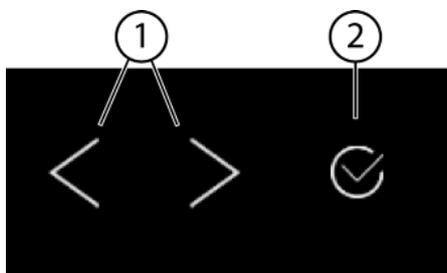
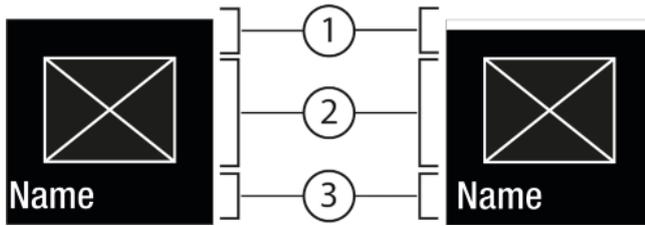
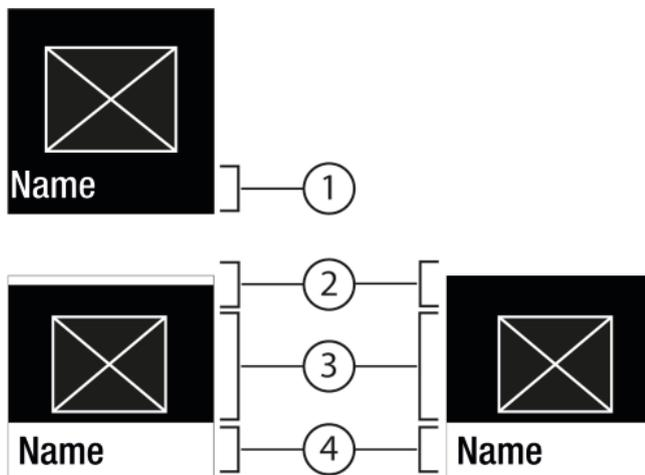

Fig. 5
Fig. 6
Fig. 7
(1) Navigation arrow left/right
(2) Confirm
**Navigation arrow left/right** Fig. 5 (1):
**Confirm** Fig. 5 (2):
- Press the left/right Fig. 5 (1) arrow to navigate.
- Press Confirm Fig. 5 (2) to activate Fig. 6 (1) / deactivate Fig. 6 (1) the function.
- Press Confirm Fig. 5 (2) to open the submenu Fig. 7 (4).
- Set a new value: Press Confirm Fig. 5 (2) to select an active value Fig. 6 (1).
- Back to the menu: Press Confirm Fig. 5 (2) to select the active value Fig. 6 (2).
- ▶ Press the navigation arrows Fig. 5 (1) until the appears.
- ▶ Press Confirm Fig. 5 (2).
- ▶ Press the navigation arrows Fig. 5 (1) until the function appears.
- ▶ Press the navigation arrows Fig. 5 (1) to select the setting value.
- ▷ Status: On Fig. 6 (1) appears briefly in the submenu Fig. 7 (4).
- ▶ Press the navigation arrows *Fig. 5 (1)* until Settings  appears.
- ▶ Press Confirm *Fig. 5 (2)*.
- ▶ Press the navigation arrows *Fig. 5 (1)* until you see the setting you want.
- ▶ To Confirm *Fig. 5 (2)*, press for 3 seconds.